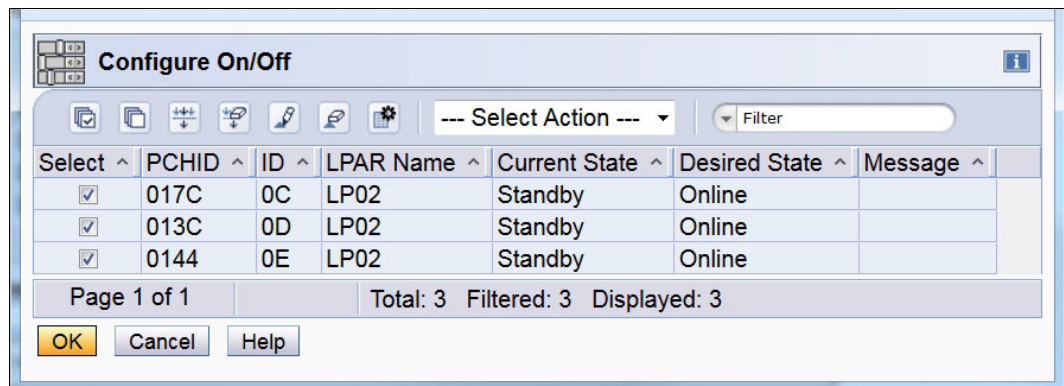

Figure 10-24 SE: Configure On/Off (Standby to Online)
- After confirming that your requested cryptographic coprocessor channels are set to the desired state of On1ine, click **OK** (Figure 10-24).